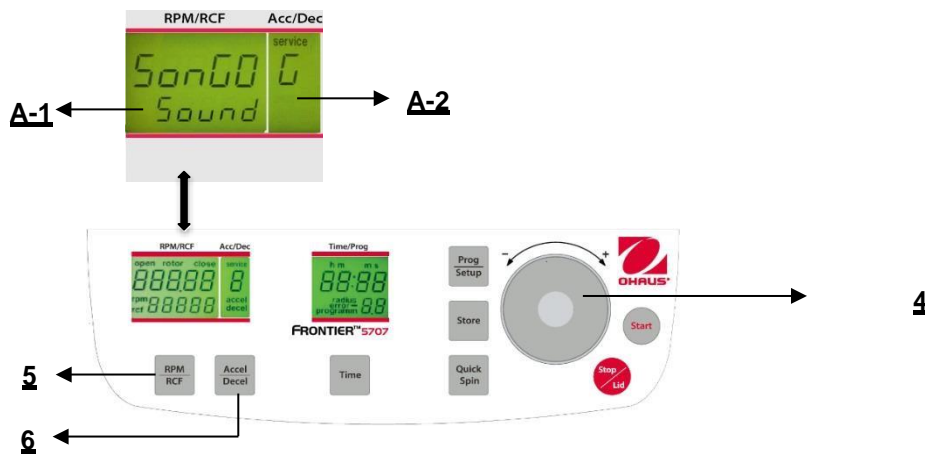

Figure. 31
Proceed as described under point 4.1.2 to enter this program mode and then press the key **"Accel/Decel"** (6). In the display **"Acc/Dec"** (A-2) the word **"Service"** flashes. Now select the letter **"G"** with the adjusting dial (4). As a result, in the display **"RPM/RCF"** (A-1), the word **"SonGo/Sound"** appears. After pressing the key **"RPM/RCF"** (5), you can select a song with the adjusting dial (4). (See figure 31).